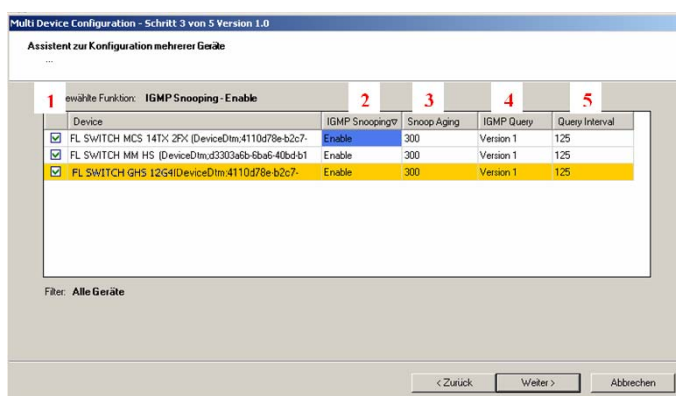

Figure 4-20 IGMP settings in the MDC wizard
- In the table, devices that are not to be modified can be deactivated (uncheck device) (see Figure 4-20/item 1)
- In the table, devices can be simultaneously activated or deactivated (see Figure 4-20/item 2)
- In the table, different aging times can be selected for the individual devices (see Figure 4-20/item 3). A response is received from the devices within the set time and multicast groups are created dynamically. This time must always be longer than the querier interval (see item 5).
- For each device, the querier can be set to Version 1, Version 2 or disabled (see Figure 4-20/item 5).
- The interval during which a querier request is sent can be set individually for each device (see Figure 4-20/item 5). All multicast devices then send back a response.